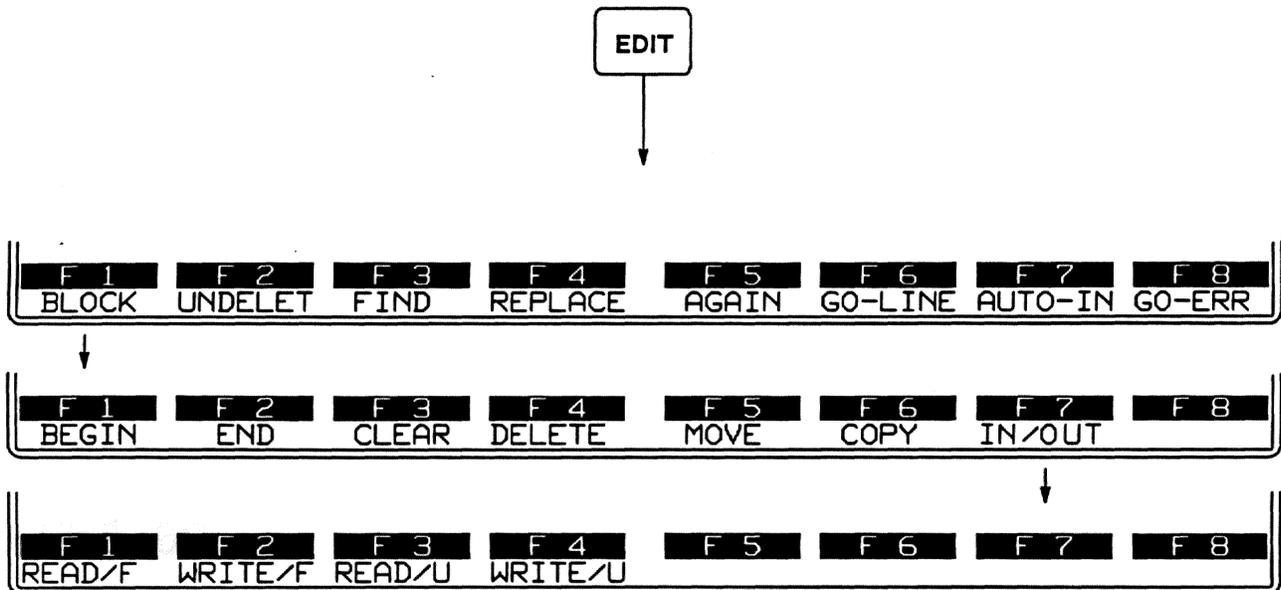

Figure 26-1 Press the *EDIT* key to access special editing functions on the Protocol Spreadsheet.
As you create a spreadsheet program, you may use any of the keys on the editing keypad to modify your entries. Sophisticated editing options are added to these basic functions when you press **EDIT** (see Figure 26-1). **EDIT** is an alternate action key which returns you to program function keys if you press it a second time.
The editing keys shown in Figure 26-1 appear when you press **EDIT** with the Protocol Spreadsheet displayed. Press **EDIT** again to move back to the program function keys. When you press **F1** for BLOCK, a subset of editing options appear. Press **DONE** to move from this subset back to the top level of editing functions.
6. *In/Out.* To access the four Read/Write options, press the function key marked IN/OUT. A new rack of function keys appears (see Figure 26-1). These functions are explained in Section 26.2(B).